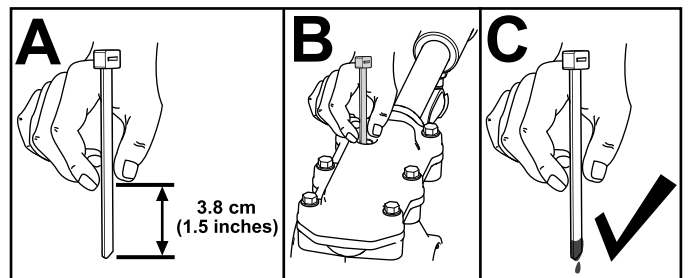

Figure 39
3. Check the oil level using a suitable measuring device, such as a clean cable tie. The oil should be approximately 3.8 cm (1.5 inches) below the filler opening (**Figure 39**).